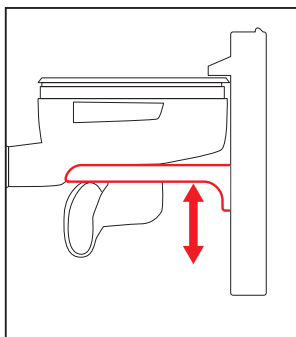

Fig. 3
5. Adjust the height of the portafilter fork to fit the portafilter. (Fig. 3)